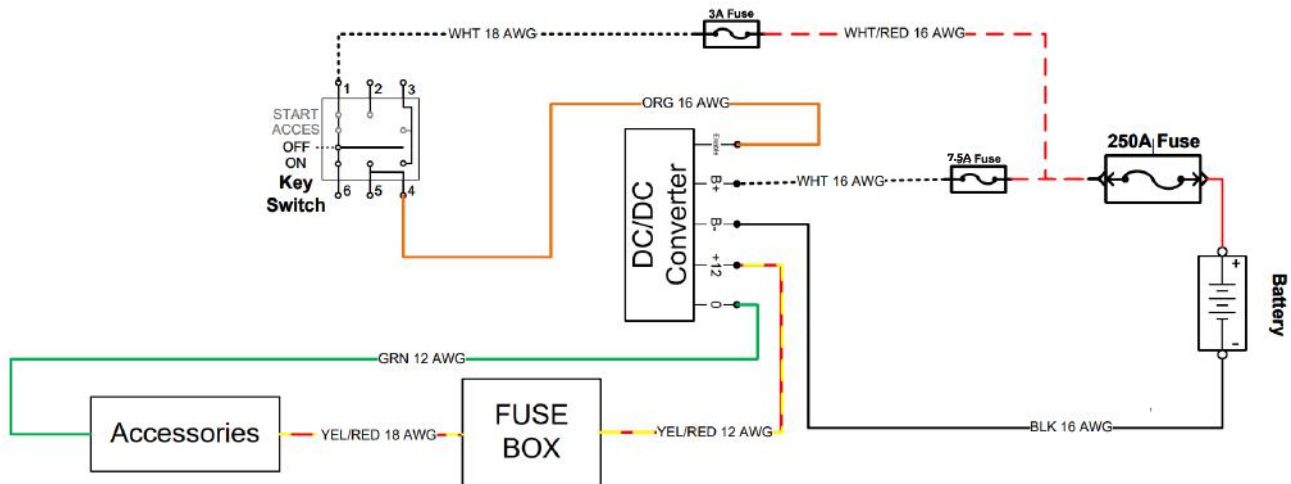

Figure 61. DC/DC Converter Input and Output Terminals Inspection.
1. 1. Check for the presence of voltage between the positive terminal (**B+**) (White Wire) and the negative terminal (**B-**) (Black Wire) of the DC/DC converter (As shown in Figure 61).
1. 2. Check for the presence of voltage between the orange wire and the negative terminal (**B-**) (Black Wire) of the DC/DC converter (As shown in Figure 61).